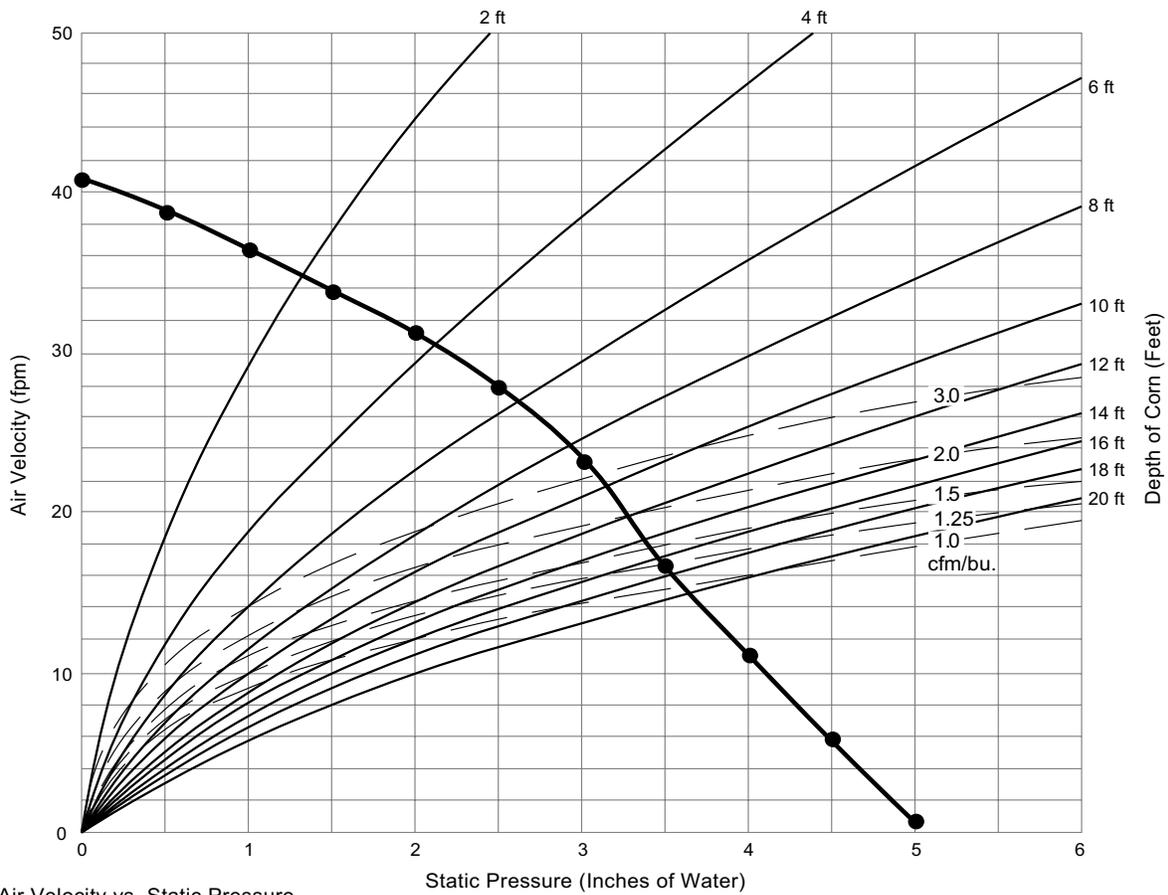

Fig. 1. Air Velocity vs. Static Pressure
**Step 3.** Plot the air velocity (fpm) for each static pressure on the air velocity vs. static pressure curves (Fig. 1) as was done with the example 10-hp vane axial fan. Connect the dots. Although a smooth curve through the points is slightly more accurate, it is easier and sufficiently accurate to draw a straight line from point to point.
2. Find the air velocity for the desired depth of fill from Fig. 1.
1. This step has been completed. Fig. 1 is the result.
2. From Fig. 1, the air velocity for the example bin and fan at the 6-foot level is approximately 27 fpm.
limitation for this purpose is that Fig. 1 is not drawn to provide the best accuracy for smaller aeration fans. MWPS AED-20, "Managing Dry Grain in Storage," available at your county extension office, describes how to estimate the cooling or warming time when the airflow per bushel is known.
the depth of corn and cfm/bushel curves in Fig. 1 were drawn by assuming a pack factor of 1.5. This figure is an estimate of the packing in the grain which depends on such variables as type of grain spreader, depth of fill, and amount of fines in the corn. Although not all persons competent in grain-drying technology use the same pack factor, most extension agricultural engineers in the Corn Belt states have agreed to use the 1.5 factor for estimating fan performance. Using this figure should give you an estimated airflow value that is at least equal to and probably less than the actual amount of air that is being delivered. It is to your advantage if your fan is delivering more air than you estimated.
The following is a brief description of how the actual airflow, as indicated by static pressure, can be used as a check of the estimated airflow procedures in this publication. Assume the example 10-hp vane axial fan was checked with the bottom manometer in Fig. 2 when operating in the 27-foot-diameter bin filled with 20 feet of corn. If the static pressure measured about  $3\frac{1}{4}$  inches, it would indicate (from Fig. 1) the air velocity to be about 20 fpm. The total indicated airflow would be about 11,460 cfm (20 fpm x 573 square feet). Assume the actual airflow moving through the grain will be 80% or 0.8 of the indicated airflow. Multiply the indicated airflow times 0.8 or  $11,460 \times 0.8 = 9,168$  cfm.
Now, check the estimated airflow. Note in Fig. 1, the example bin and fan curve crosses the 20-foot depth of grain curve at about  $3\frac{1}{2}$  inches. From Table 2, the indicated total airflow at  $3\frac{1}{2}$  inches is 9,400 cfm. This compares closely to the check—9,400 cfm vs. 9,168 cfm.